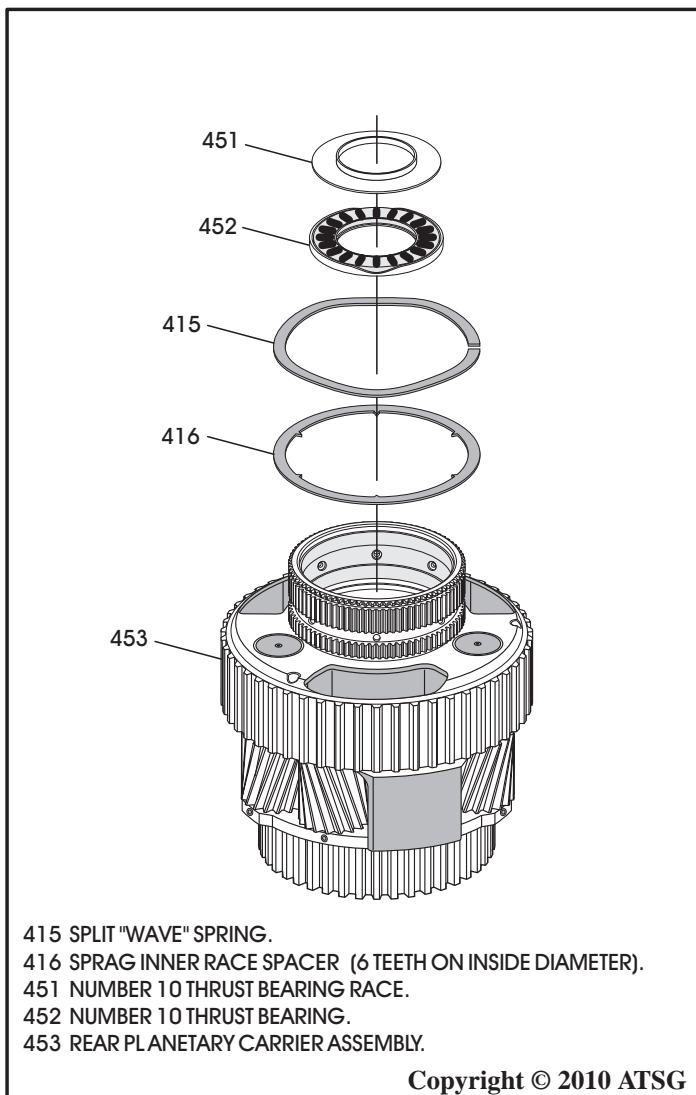

Figure 67
61. Separate rear planetary carrier parts, as shown in Figure 67.